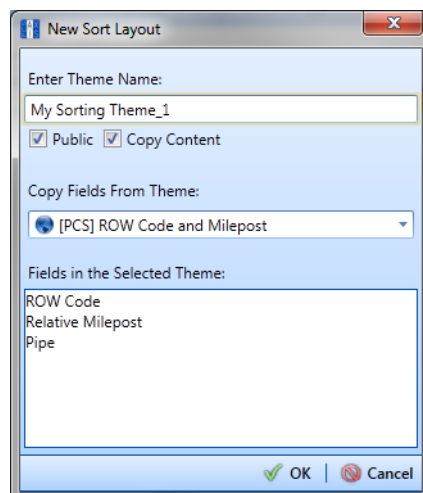

Figure 13-39. New Sort Layout
- 5 Click the  **Add** button to open the *New Sort Layout* dialog box (Figure 13-39).